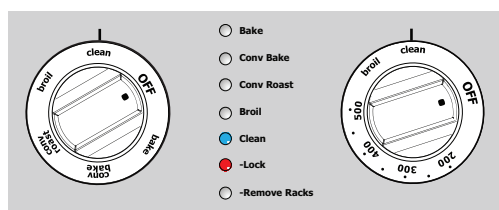

Figure 26: Clean cycle initiated
2. Turn the temperature adjust dial to **clean**. The **Clean** indicator light will be steady and the **-Lock** indicator light will blink while the door lock engages (about 15 seconds). Refer to Figure 26 below.
Apply a few drops of cooktop cleaning cream directly to the soiled area. Rub the soiled area using a non-abrasive cleaning tool, applying pressure as needed. Do not use the pad you use to clean the cooktop for any other purpose. If soils remain, carefully scrape soils with a metal razor blade scraper, holding scraper at a 30 degree angle to the surface (Figure 26). Remove loosened soils with cooktop cleaning cream and buff surface clean.